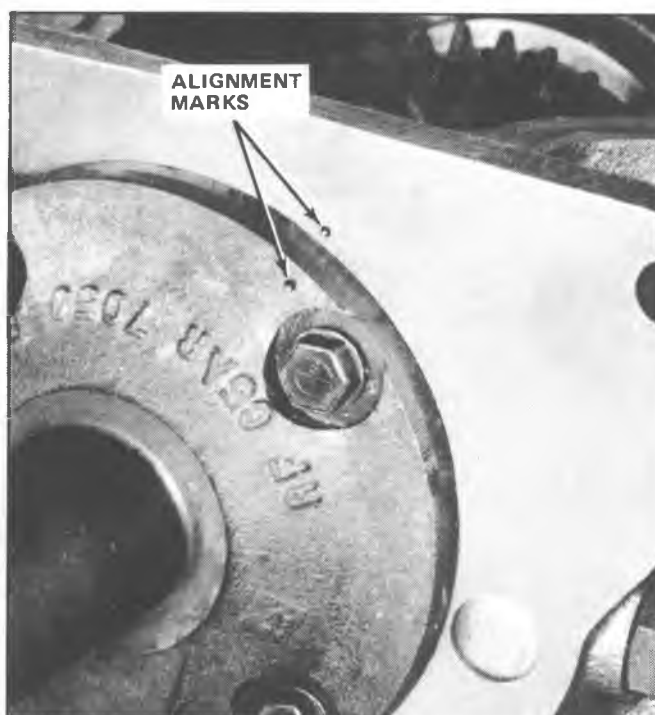

Fig. 6R-Removing Front Bearing Retainer
8. Punch alignment mark in front bearing retainer and transmission case to ensure correct assembly and remove front bearing retainer and gasket (fig. 6R).